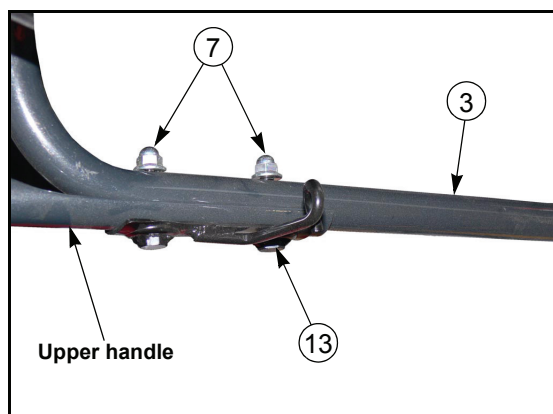
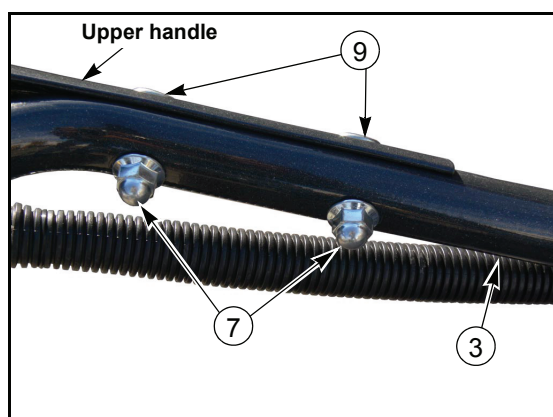

Fig. 4-3
Fig. 4-4
2. Assemble the upper handle to the lower handle ③. Use the holder ⑬ on the right hand side and the two bolts ⑨ on the left hand side and the flanged cap nuts ⑦. Fig. 4-3 and Fig. 4-4